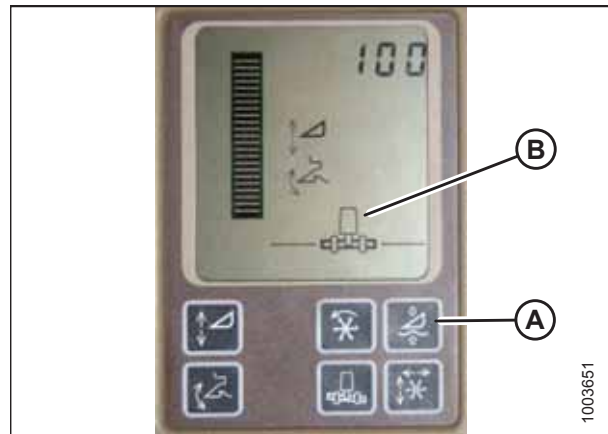

Figure 6.135: John Deere Combine Display
Do **NOT** use active header float function (A) in combination with the AHHC system; the two systems will counteract each other. Header symbol (B) on the display should **NOT** have a wavy line under it and should appear exactly as shown on the Active Header Control Display in Figure 6.135, page 160.